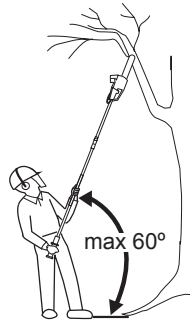

Fig. 34
5. Always hold the product at an angle of not more than 60° from the horizontal level. Otherwise safe operation is not possible (Fig. 34).